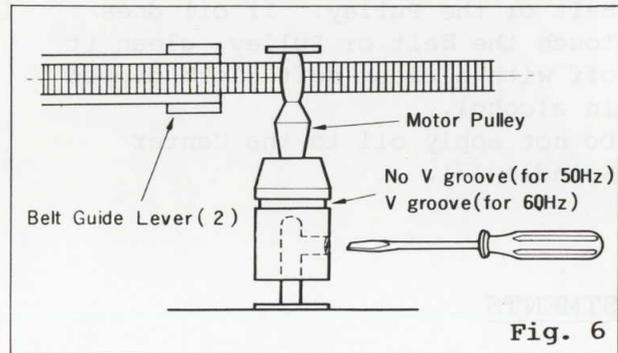

Fig. 6
Set the Speed Select Lever to 33 rpm and adjust the height of the Motor Pulley. Then align the center of the 33 rpm portion of the Motor Pulley with the center of the Belt Guide Lever (2). (Figure 6)
- Yes: Check the pulley. (Fig. 6: 50 Hz pulley has no V groove; 60 Hz pulley has a V groove).
- Yes: Check the position of the belt select lever, pulley and belt. (Figure 6)